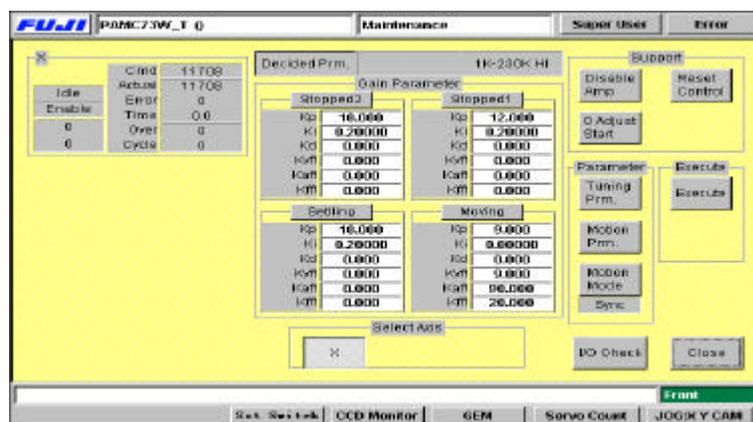
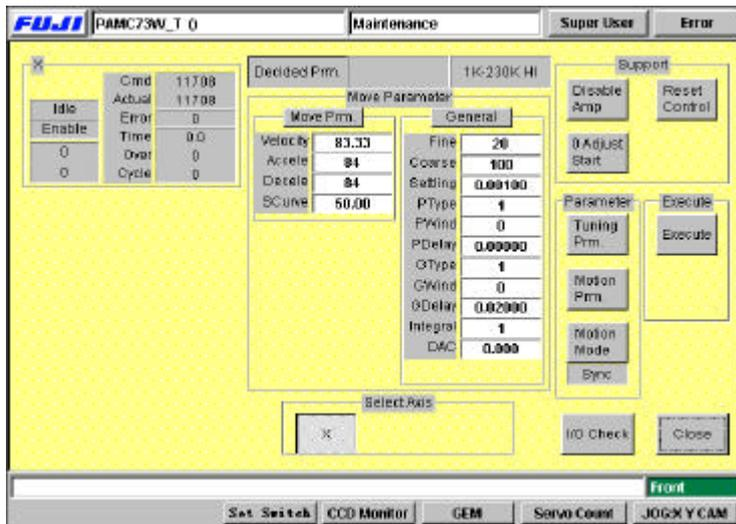
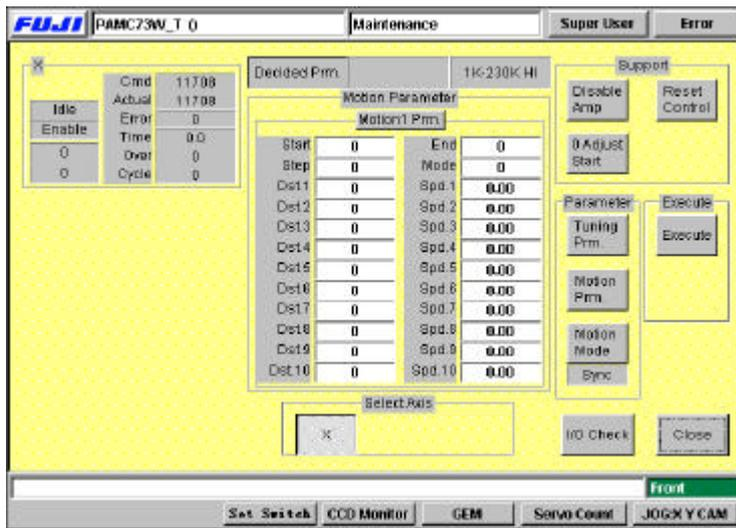
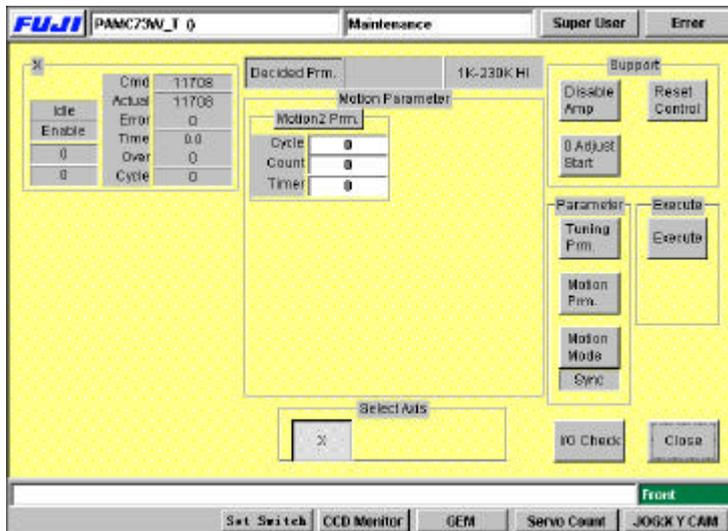

Figure 5
Figure 6
Figure 7
Figure 8
3. Press [**Tuning**] and the display will change to Fig.5.
5. Press **[0 Adjust Start]** (fig. 5) and the M/C **[Start]** button will begin to blink. When the [Start] button is pressed, servo pack zero setting will start. If the counter value in **[Actual]** (fig. 5) is not stable, carry out the adjustment as follows so that the value remains relatively constant.
- 2) Each time the **[Tuning Prm.]** from “Parameter” is selected, the display switches between Fig.5 and fig.6. Each time **[Motion Prm.]** is pressed, the display changes between Fig.7 and Fig.8. Each time **[Motion Mode]** is pressed, the display under the button changes between “Sync”, “Interp”, “Unsync”, “Timer” one by one. **The set value is always set to “Sync”**,
[Caution]: Do not change the [Move Parameter] and [Gain Parameter] in Fig.5 and Fig.6.
- 3) After **[Motion1 Prm.]** is pressed in Fig.7, values can be entered into **[Start]**, **[End]**. Enter the values for [Start] and [End] according to the gain test adjustment table.
Carry out the same procedure for Fig.8 **[Motion2 Prm.]**. Press and enter the values for [Cycle], and [Timer]. **Enter 1 for [Cycle mode] and 500 for [Interval timer]**.